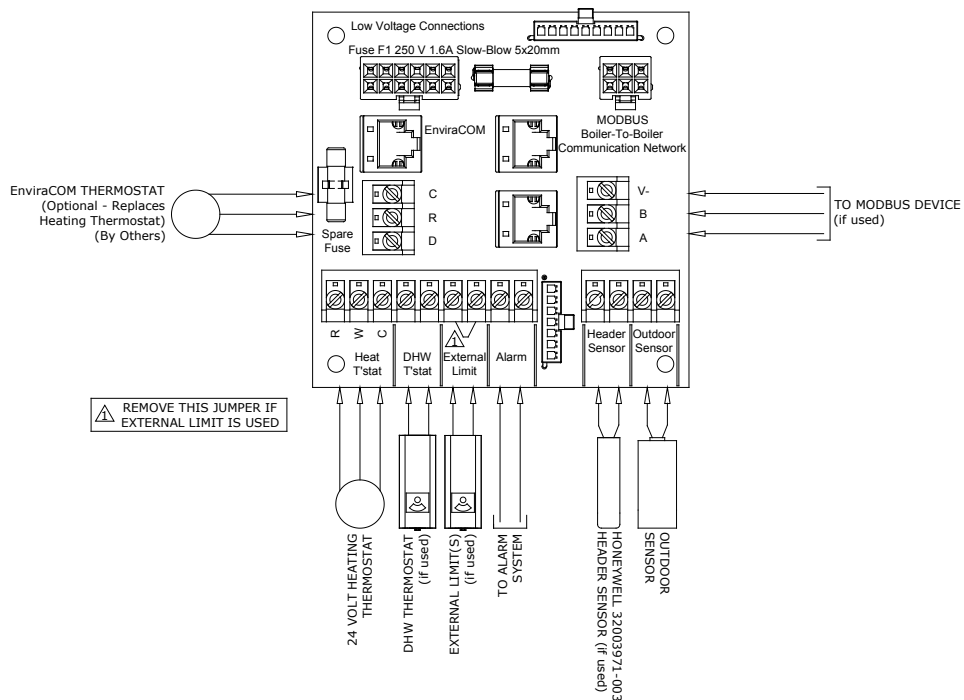

Figure 10.3: Low Voltage PCB Terminal Connections
**This boiler is equipped with a listed high water temperature limit function. This limit provides boiler shutdown in the event the boiler water temperature exceeds the set point of the limit control. Certain Local Codes require an additional water temperature limit. If necessary, install an additional water temperature limit such as a Honeywell L4006 Aquastat. Wire as indicated in Figure 10.3.**
- 2) Low Voltage Field Connections – Low voltage field connections on the low voltage PCB are shown in Figure 10.3 and are listed from top to bottom:
- DHW T’Stat - 24VAC domestic hot water thermostat (1)
- DHW T’Stat - 24VAC domestic hot water thermostat (2)
- External Limit - Field supplied low voltage safety limit contacts (1)
- External Limit - Field supplied low voltage safety limit contacts (2)
- Alarm Contact (1)
- Alarm Contact (2)
- Outdoor Sensor - Tasseron TSA00AA Outdoor Temperature Sensor (1)